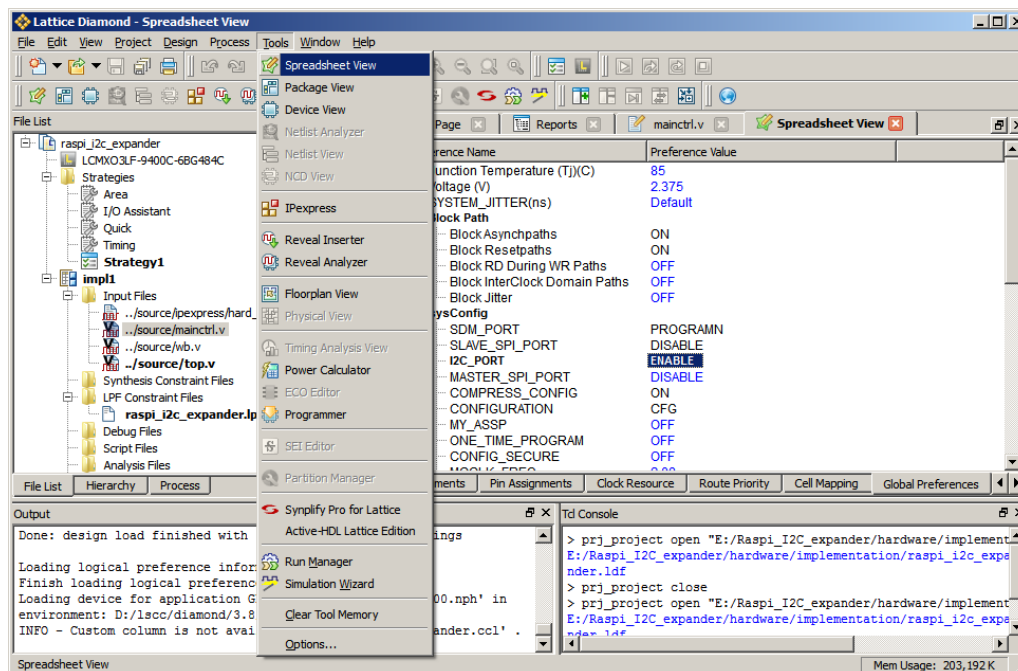

Figure 12.3. Checking Global Preferences Settings
- Open Spreadsheet View (Figure 12.3) and make sure the I2C\_PORT option is enabled.